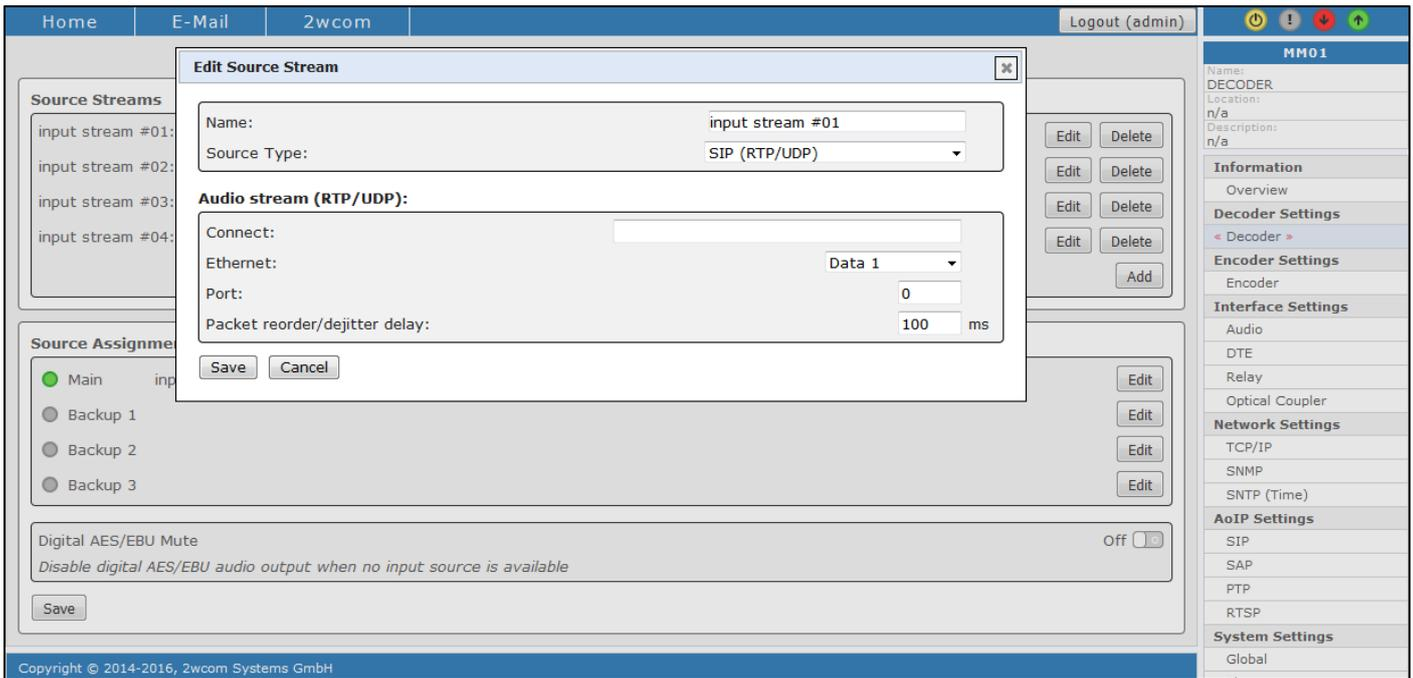

Figure 37: Input Source Settings – SIP audio stream (RTP/UDP)
1. Choose "SIP (RTP/UDP)" in the field Source Type. The menu will be extended to the block **Audio stream (RTP/UDP)** (see Figure 37).